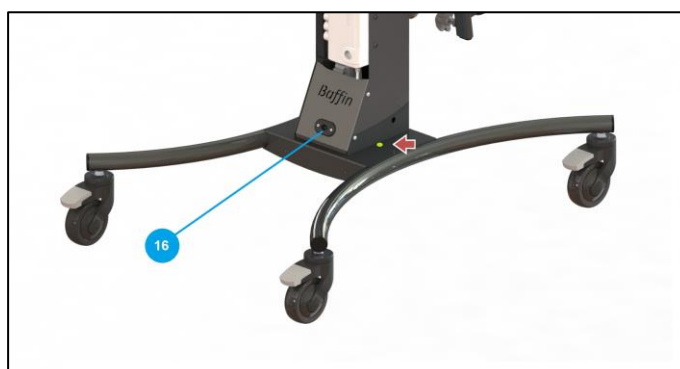

Fig. 19 The jack and diode which signals status of charging during loading
To plug the device in, you should use the power supply unit to the jack (16) which is placed on the back of the device's base (fig. 19).
Battery is an independent power source, which enables using the device without necessity of plugging it in into electrical network 100 - 240V. After the battery got discharged, it need to be charged again. On the battery casing, there is placed an diode which signals status of charging during loading – it is visible through the slot in the frame's base (fig. 19).